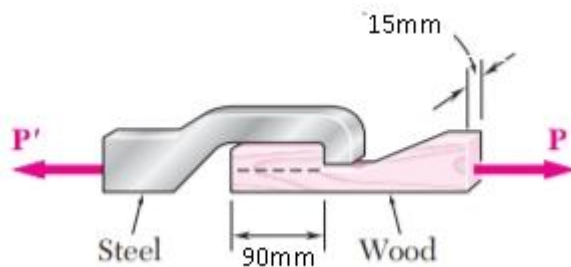

Figure 1
- c. In figure 1 below, when the force P reached 8 kN, the wooden specimen shown failed in shear along the surface indicated by the dashed line. Determine the average shearing stress along that surface at the time of failure. [5 marks]